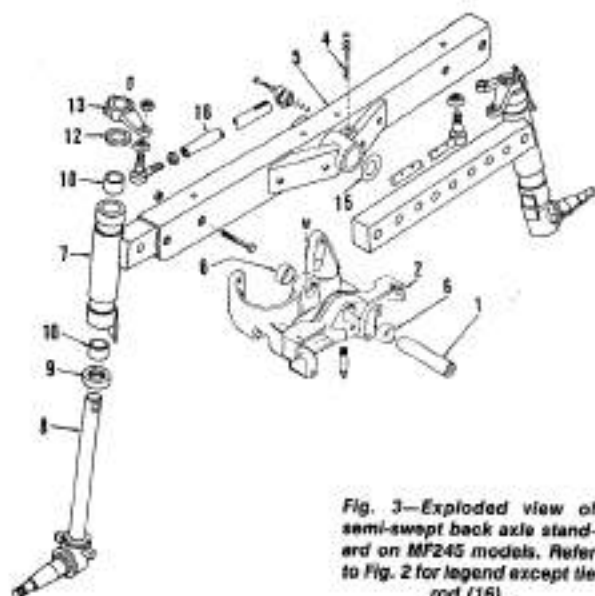

Fig. 3—Exploded view of semi-swept back axle standard on MF245 models. Refer to Fig. 2 for legend except tie rod (16).
2. Automotive type tie rod and drag link ends are used. Units are nonadjustable and should be renewed if excessively worn. Recommended toe-in is 3 mm (1/8 inch). On models with two drag links, adjust each an equal amount to obtain correct toe-in. On models with tie rod (16—Fig. 3 or 4), loosen locknuts and clamps, then turn adjusting sleeve to provide correct toe-in.